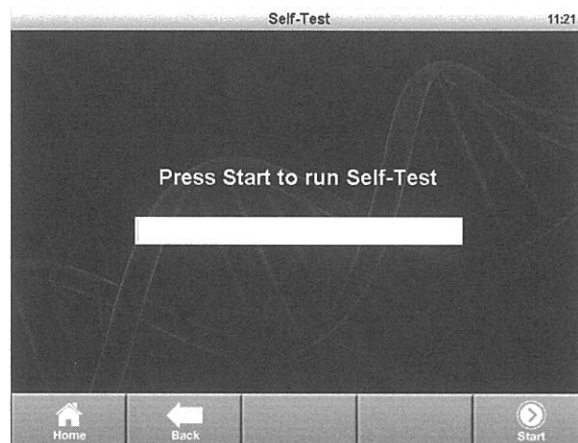

Figure 25. Self-Test function in progress.
3. Touch **Start** (Figure 25).